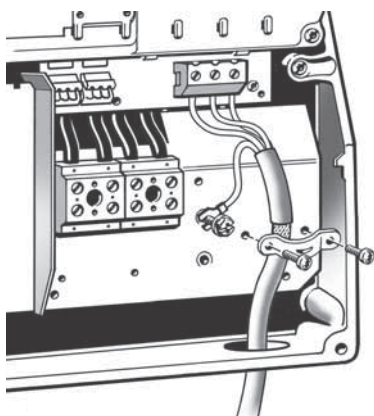

Fig. 15 Motor connection, B1 and B2
1. Connect the ground conductor to terminal 99 (PE), fig. 15.
2. Connect the motor conductors to terminals 96 (U), 97 (V), 98 (W).